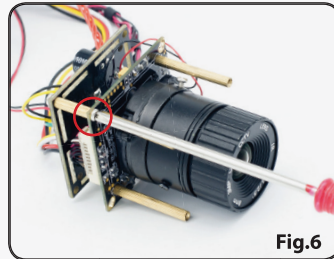
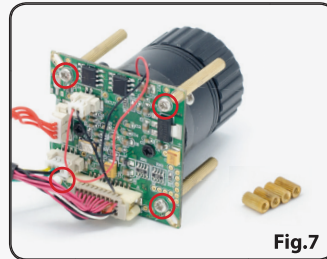

Fig.6
Fig.7
Step 5: Loosen the two outer screws at the opposite corners to get access to the four long inner screws which are holding the four long spacers in place (Fig.6). Remove the long spacers and replace them with the included short spacers (Fig. 7 & 8).